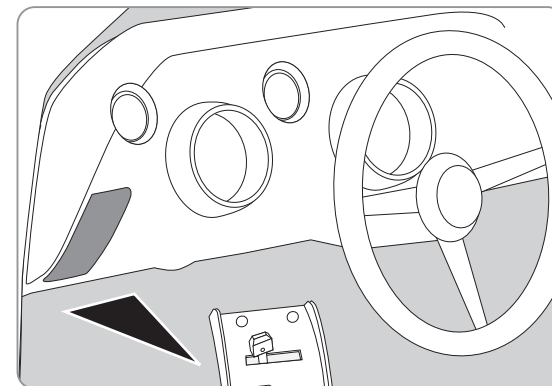

FIGURE 8
1) There are four OEM screws that hold your control head to the dash, two on the lower side and two on the upper. Remove and retain these screws. Remove the control head assembly (see figure 8).